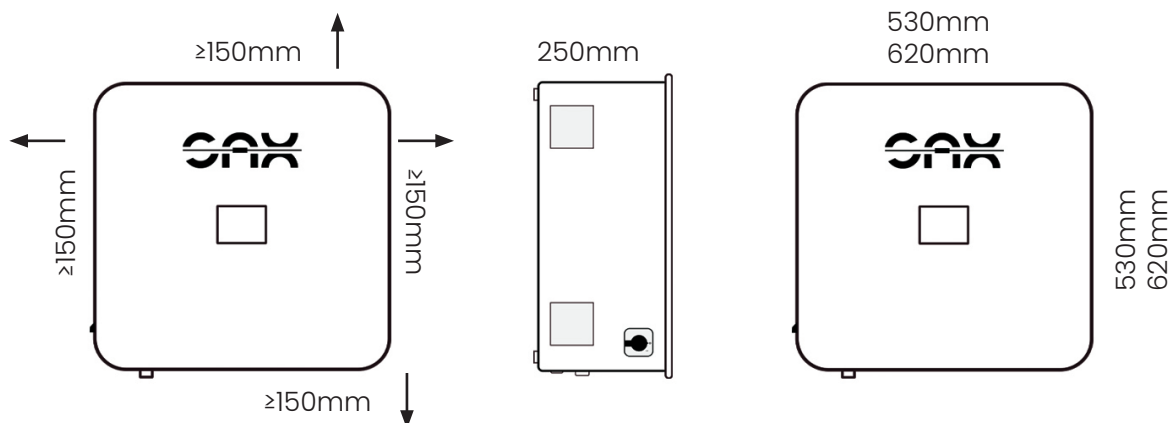

Fig. 13.3 Distance specifications and storage dimensions
1. Align the wall bracket with a spirit level and observe the mounting distances (Fig. 13.3).